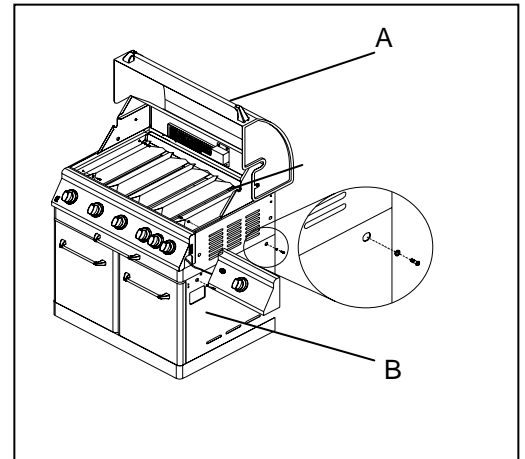

Fig. 12
Attach the utility drawer handle (A) to the utility drawer using four 5/32-in. x10-mm truss head screws from pack A and four 5/32-in. locking washers from pack B as shown in fig. 12.